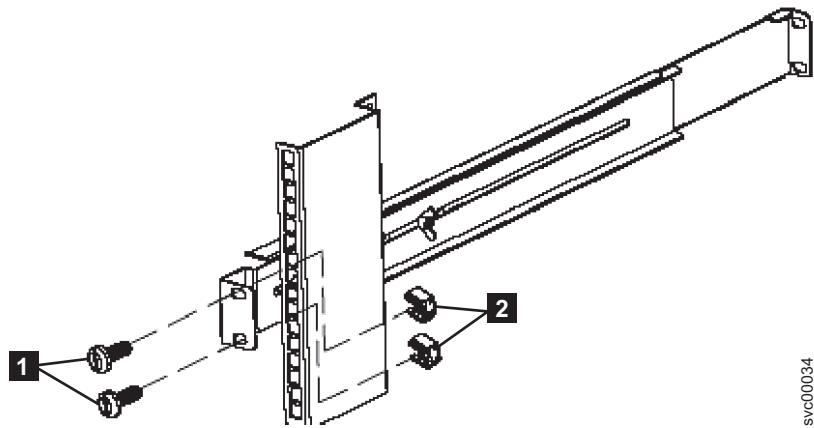

Figure 317. Securing the rear rail on the 2145 UPS-1U
6. Using two M6 × 10 screws (1 in Figure 317) and two clip nuts (2), attach the rail to the rear of the rack. The customer's rack might be different than the one shown here, and if so, might require different clip nuts or fasteners.